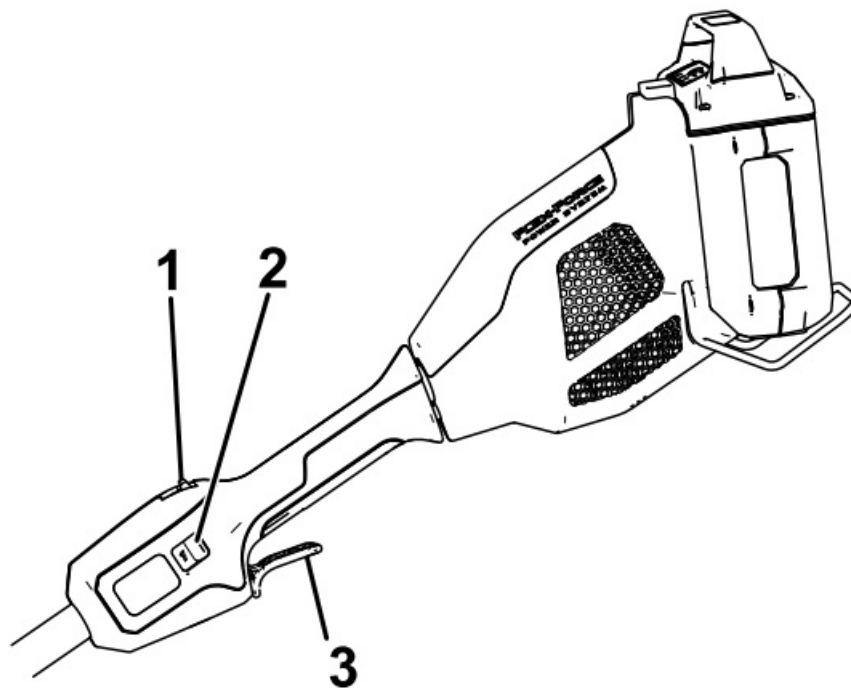

Figure 10
4. To start the trimmer, press the lockout button, then squeeze the run trigger (Figure 10).